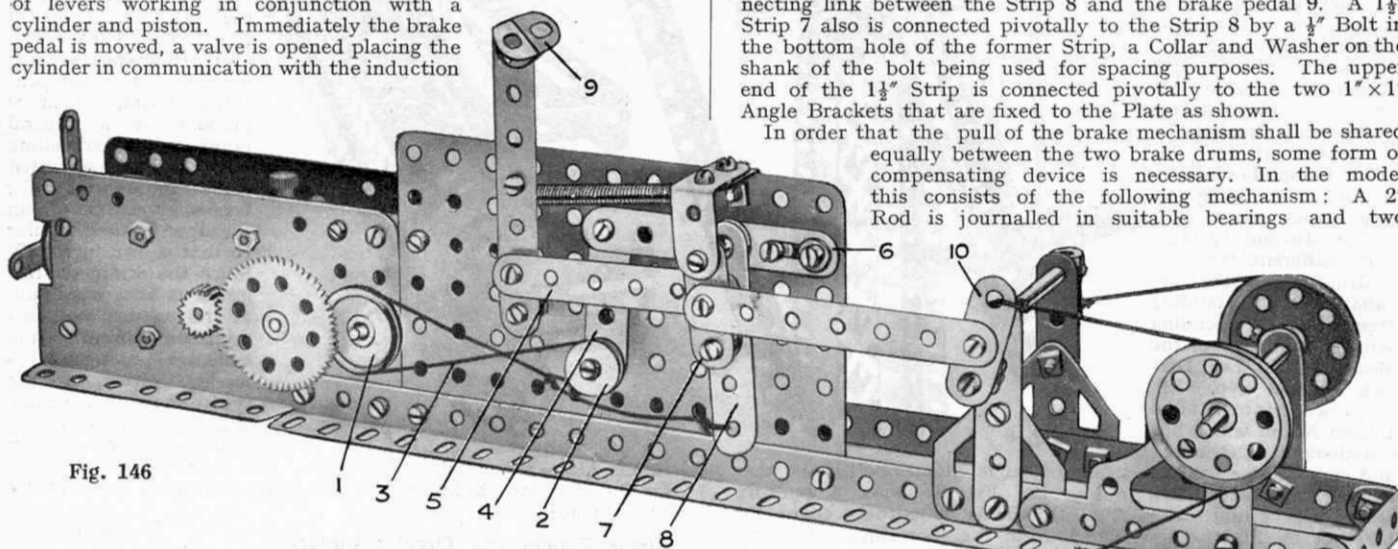

Fig. 146
T. M. Cartledge's model, illustrated in Fig. 146, is a reproduction of this type of brake. It demonstrates the working of the actual device very well, but as the vacuum cylinder and its attendant mechanism could not be contrived from Meccano parts, a different method of operation had to be adopted.